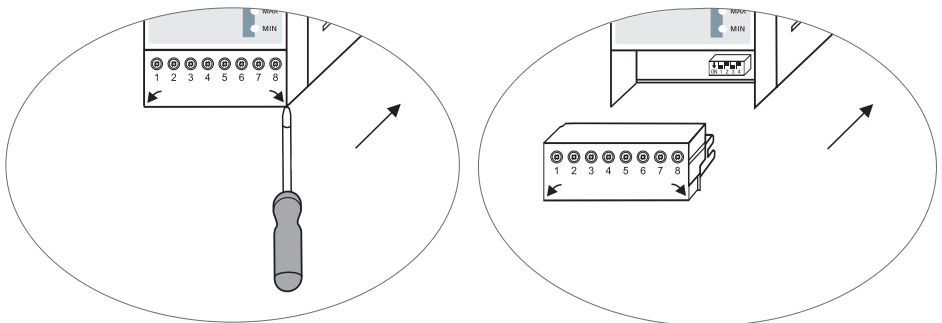

Fig. 7
- Remove the lower and upper terminal strips. **Fig. 7**